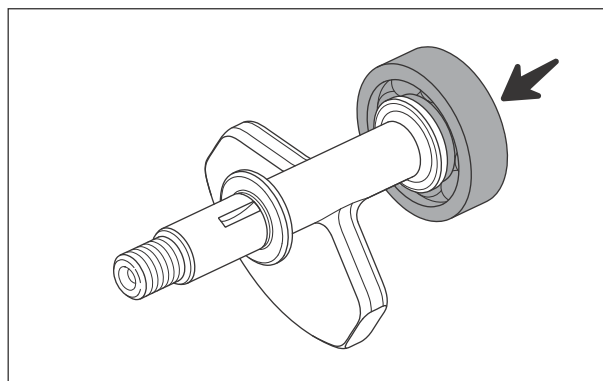

Fig. 3.175
- Inspect the balancer shaft bearing for free rotation and any abnormal noise. If found any replace the bearing. (Fig. 3.175)